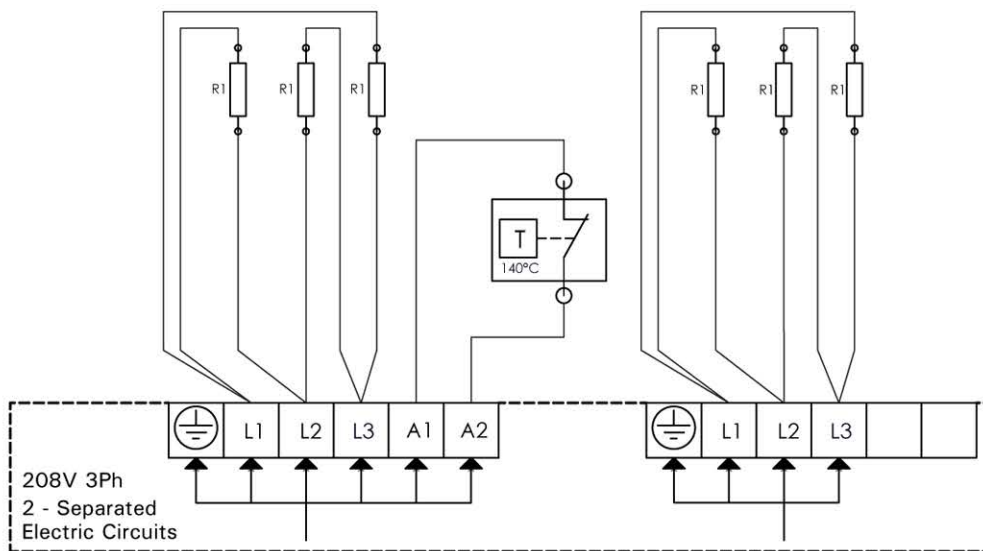

Figure 6. Electrical connections of heater
2. See applicable wiring diagram for heater model (figure 6, see control unit manual for detailed instructions how to connect the heater and the control unit). Heater must